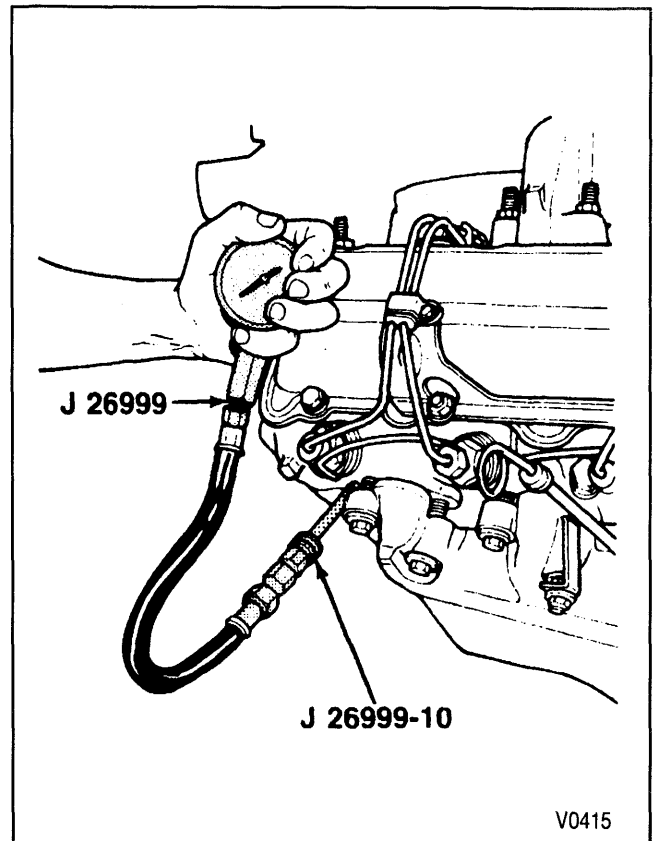

Figure 2—Checking Diesel Engine Compression
4. Screw J 26999-10 into the glow plug hole of the cylinder that is being checked. Connect to J 26999 (figure 2).